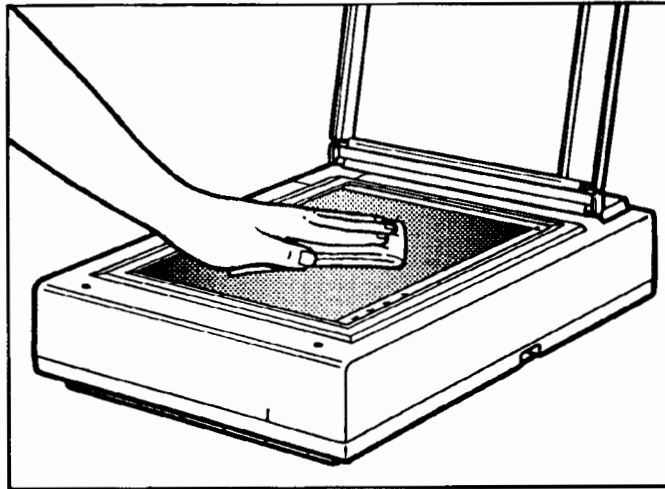

Figure C-1. Cleaning the Copyboard Glass
3. Using a soft cloth and a mild detergent, gently wipe the copyboard glass, copyboard cover, and the exterior of the scanner. See figures C-1 and C-2. Avoid spraying cleaning solution directly on the copyboard glass because the spray could penetrate below the glass and contaminate internal mirrors and lenses.